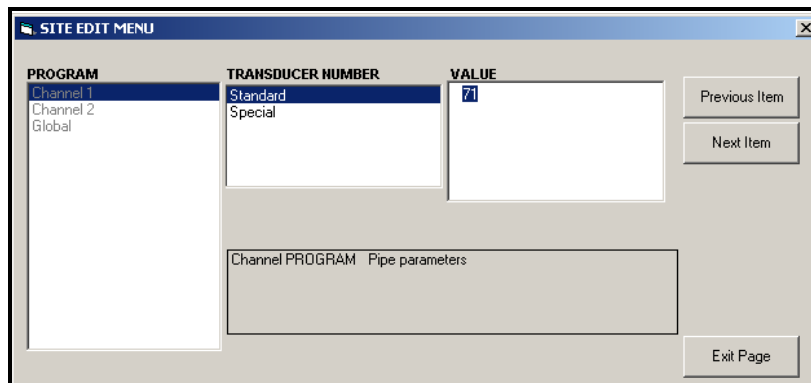

Figure C-11: Pipe Parameters Option in the *Site Edit Menu*
- a. Highlight and double-click on the desired option in the center pane. Figure C-11 on page C-10 shows the first entry (Transducer Number) in the *Pipe Parameters* option. The title above the center pane lists the current entry, while the center pane displays the available selections for that entry.